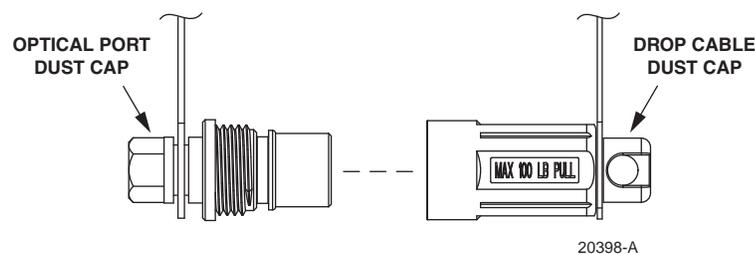

Figure 16. Dust Caps
8. Inspect the optical port dust cap O-ring (see Figure 16) for dryness and apply O-ring lubricant (MST-ACC-LUBE1) to the O-ring if dry. Refer to Section 7 for the procedure.
9. Thread the optical port dust cap into the drop cable dust cap as shown in Figure 16 and then tighten both dust caps finger tight. This ensures that both dust caps will stay clean when not in use.
1. Unscrew the optical port dust cap from the drop cable dust cap (see Figure 16).